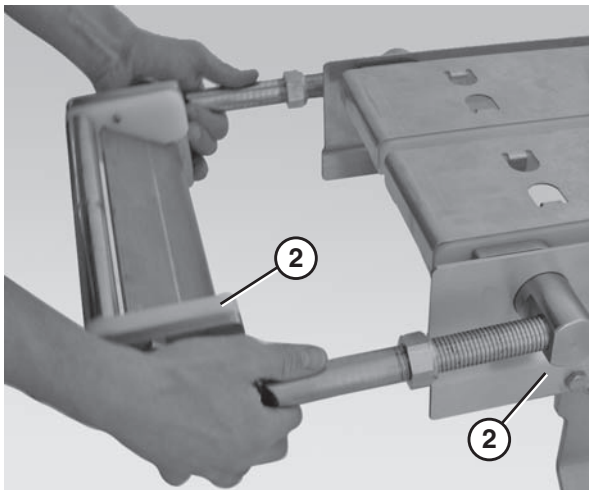

Figure 88
4. Slide the nose bar tail assembly (**Figure 88, item 1**) out of the take up blocks (**Figure 88, item 2**).